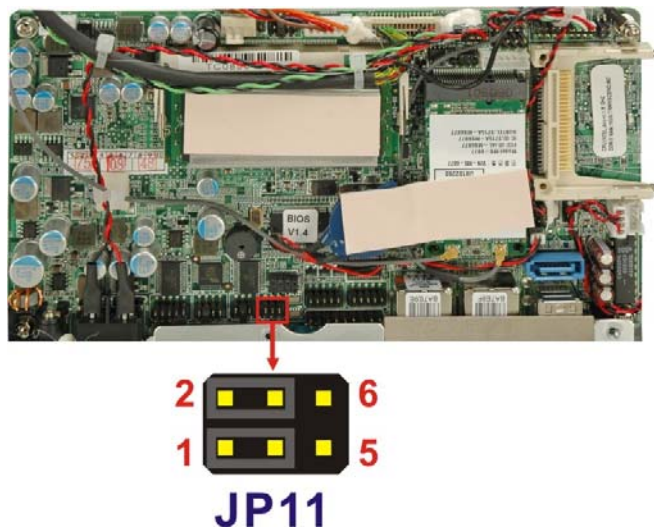

Figure 4-10: COM3 TX Function Select Jumper Pinout Locations
- Jumper Location:** See Figure 4-10
The COM3 TX Function Select jumper location is shown in **Figure 4-10** below.